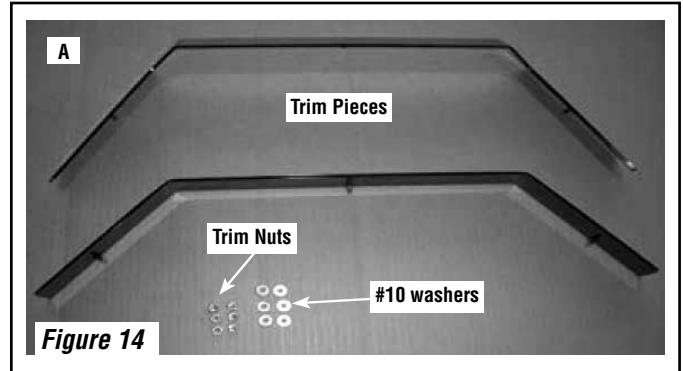

Figure 14
3. Open front door. Put door trim in place by inserting trim studs into the corresponding holes in the front door (**Figures 14 and 15**). The upper door trim will only fit in one direction, but the lower door trim can be installed incorrectly. When placing the lower door trim, make sure that the distance between the top edge of the lower door trim to the glass in the door is 9/16" (see **Figure 18**).